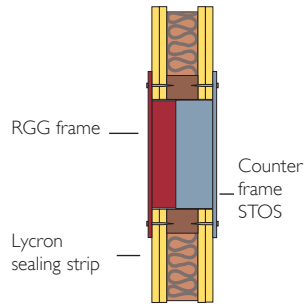

Fig.6
**RGG** frames and the flanges of the **Counter frame** are screwed into the wall (fig. 6). A Lycron sealing strip should be used between the wall and the flange to provide a gas tight seal. The galvanised counter frame is available with three different standard depths, which are suitable for the most common wall thicknesses, see below.